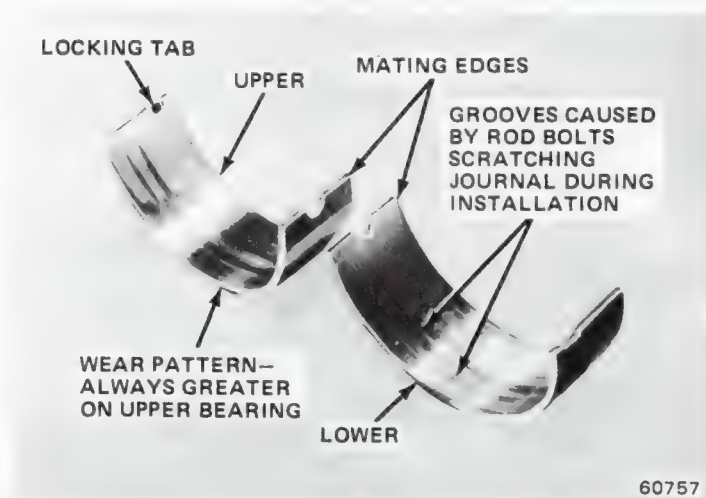

Fig. 1B-101 Connecting Rod Bearing Inspection
- (3) Inspect for material imbedded in linings which may indicate piston, timing gear, distributor gear or oil pump gear problems. Figures 1B-102 and 1B-103 show common score patterns.
- (4) Inspect fit of bearing locking tab in rod cap. If inspection indicates that insert may have been caught between rod and rod cap, replace upper and lower bearing inserts.
- (5) Inspect insert in area of locking tab. Abnormal wear indicates bent tabs or improper installation of inserts (fig. 1B-104).
- (6) Replace bearing inserts that are damaged or worn.